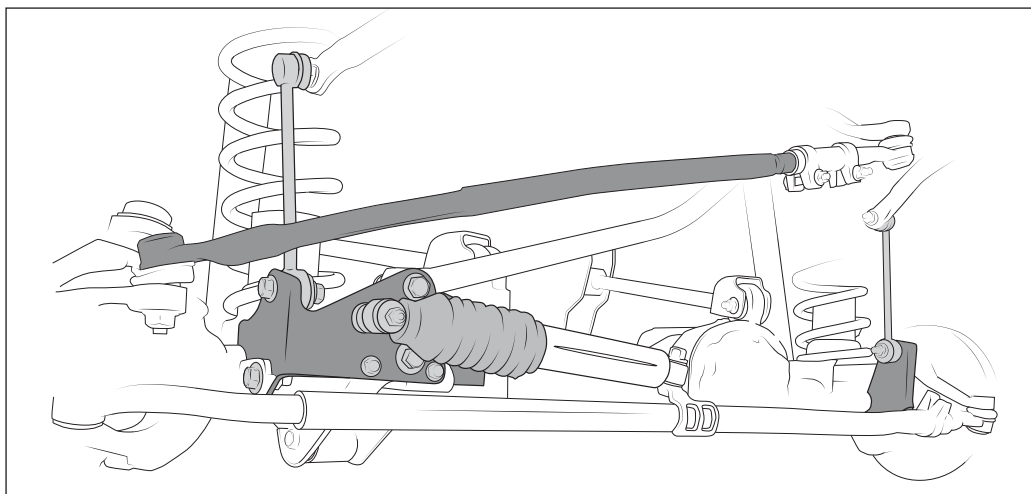

Figure 30
- B. Insert original track bar bolt and flag nut through passenger-side front axle brackets and track bar but do not tighten at this time (refer to Fig. 30).